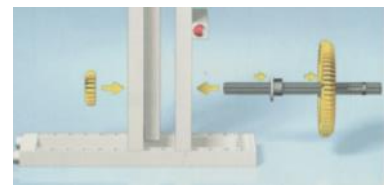

Figure 2: First Gear Assembly
**Use Figure 2 for steps 3-7.**